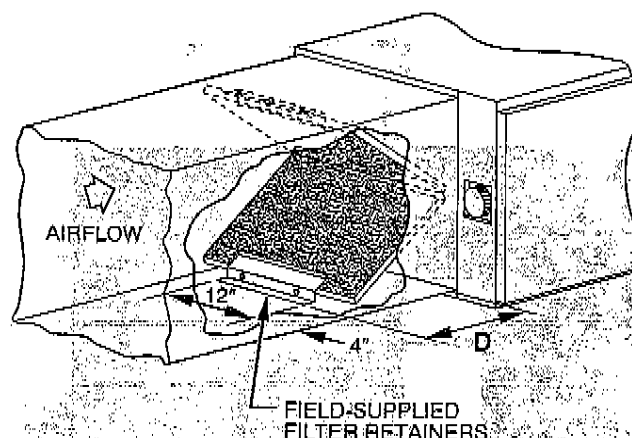
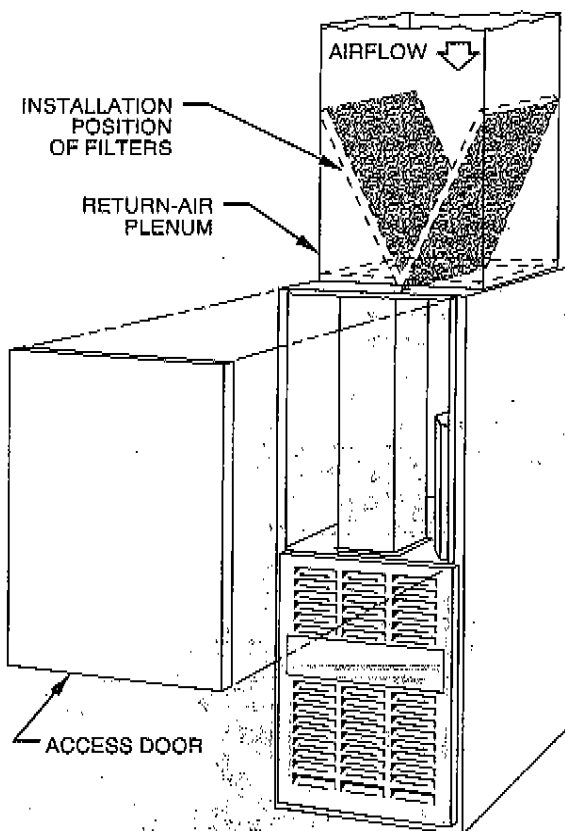

Fig. 8—Horizontal Filter Arrangement
Fig. 9—Downflow Filter Arrangement
4. Install field-supplied filter retainers as indicated in Fig. 8 and Table 4 before connecting return-air duct to furnace.
The 2 factory-supplied filters are shipped in the blower compartment. After the return-air duct has been connected to the furnace, install the filters in a V-formation inside the return-air plenum. See Fig. 8 and Table 4 for horizontal applications. Horizontal filter retainers must be field-supplied. See Fig. 9 for downflow applications.